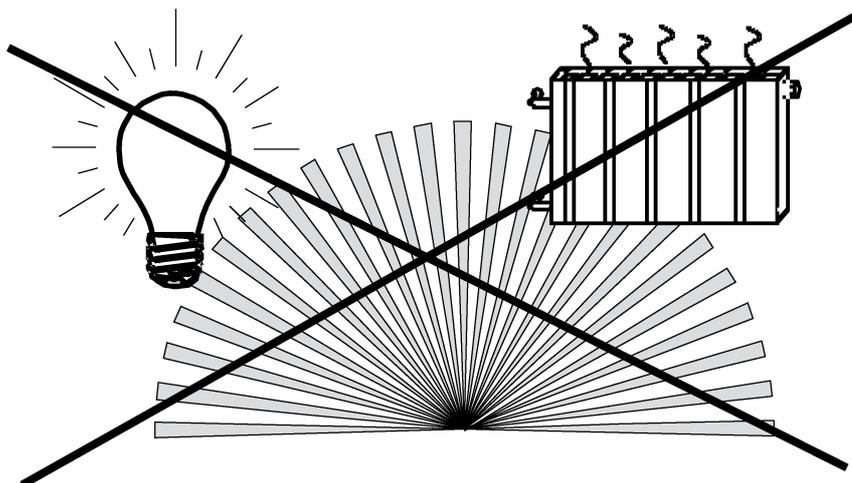

Figure 6
- Make sure that there are no sources of interference, such as lamps or heaters, in the detection field (Figure 6): select the most appropriate installation location and/or use push-on cover (see "Limiting the detection area").